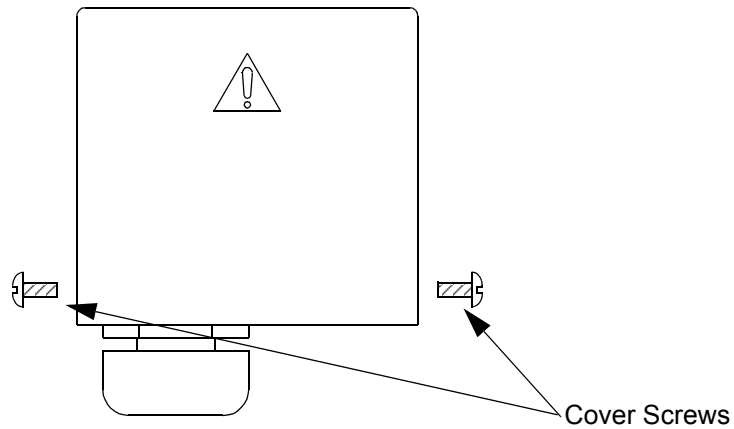
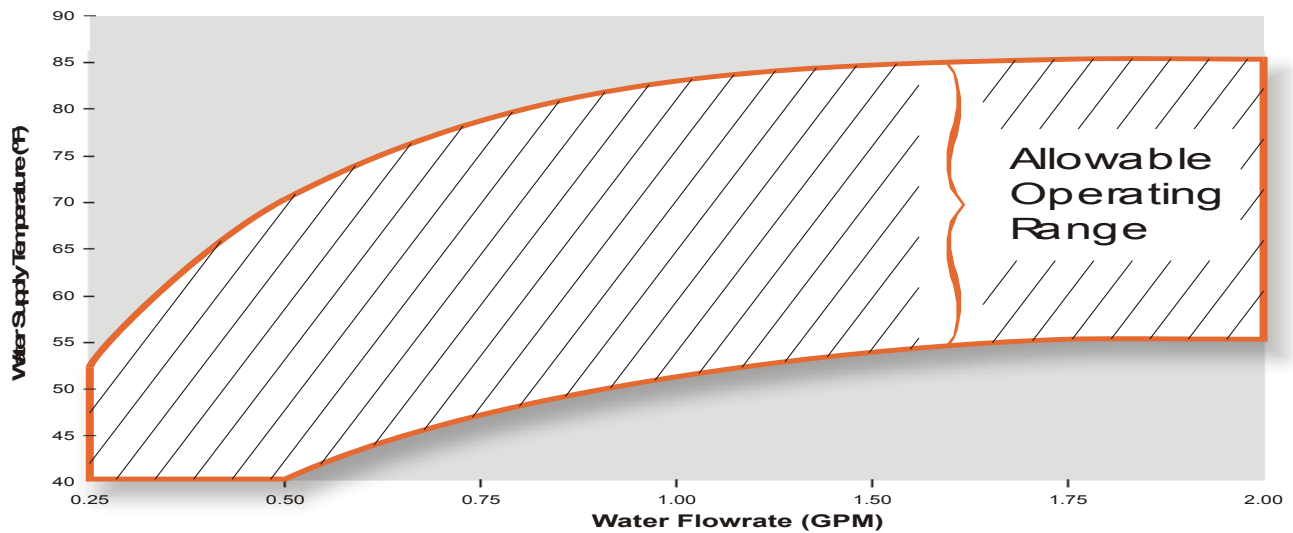

Figure 4-1: Electrical Terminal Enclosure with Cover in Place
Figure 4-4: 8200 Compressor Water Cooling Requirements
2. Disassemble the electrical terminal enclosure cover, mounted on the compressor rear panel, as shown in Figure 4-1 on page 4-4. Remove the two screws securing the cover and lift it off.
Use Figure 4-1 on page 4-4 and Figure 4-4 on page 4-7 to determine the minimum acceptable cooling water supply pressure at different flow rates and temperatures